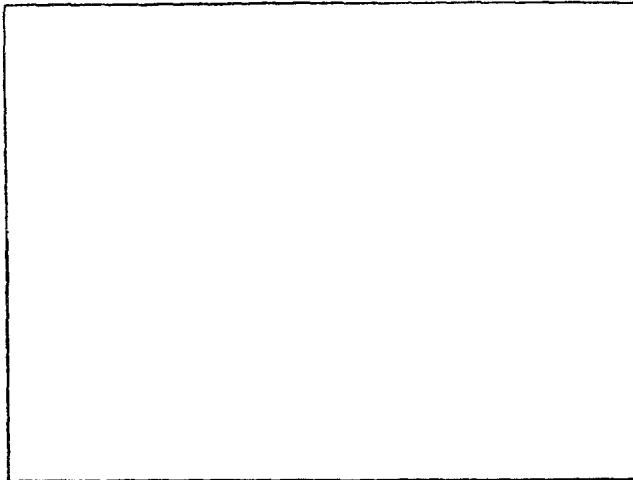

Fig.63
- I. Mark the rim on the inner or outer plane at 12:00 according to the request ( Fig.63) Note that in this program either displays could indicate the position.
- E. Mark the tyre on the valve position (Fig.63), which is usually on the outer part of the wheel.